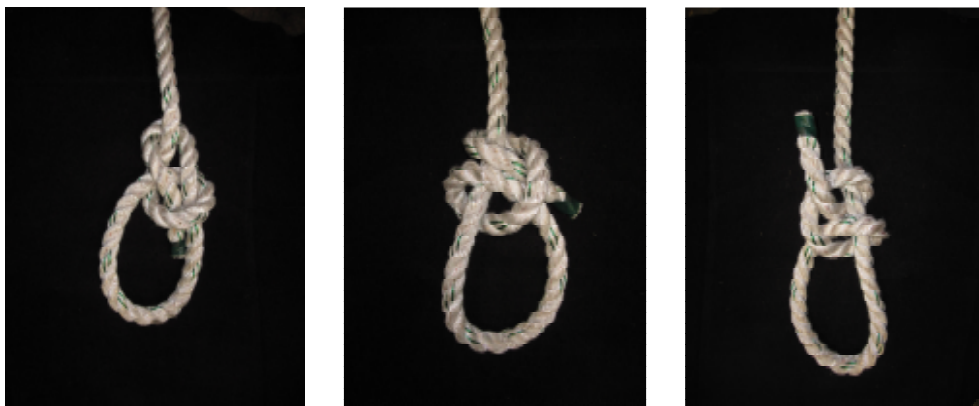

FIGURE 30 (Bowline, Girth Hitch, and 2 Half Hitches)
- Attach rope using the appropriate knot or splice. The use of half hitches or a bowline is recommended for attachment to an arbor. On arbors, remember to fix the tail to the standing part with tape or tie wrap once the final adjustment has been made (See **FIGURE 30** for knot types).